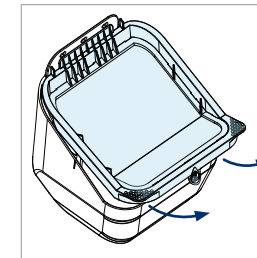

Figure 2
3. Remove the Clean Shield™ screen by lifting it up and then out (Figure 2).
2. Remove the Clean Shield™ screen by lifting it up and then out (Figure 2).